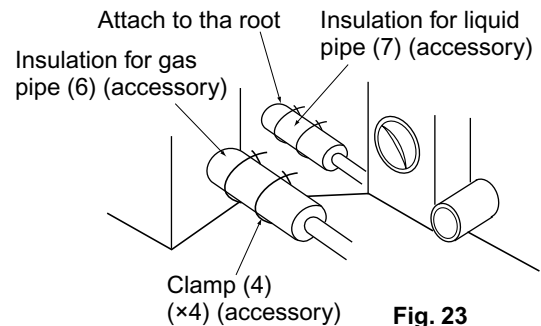

Fig. 23
- Make absolutely sure to execute heat insulation works on the pipe-connecting section after checking gas leakage by thoroughly studying the following figure and using the attached heat insulating materials for couplings (6) and (7). (Fasten both ends with the clamps (4).) (Refer to Fig. 23)